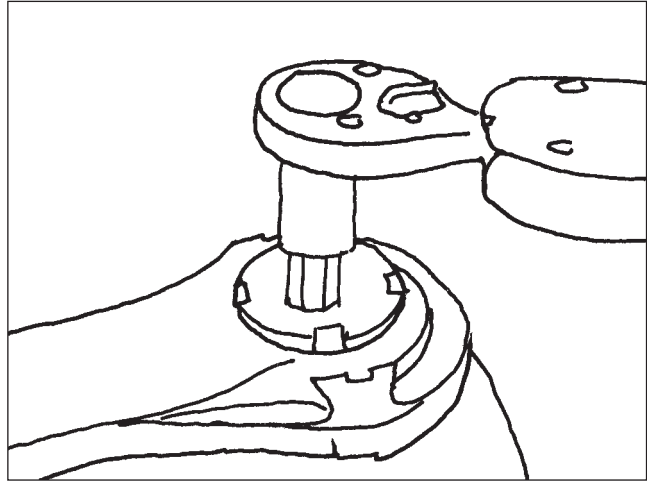

Figure 56
6. Using the 5/8" or 3/4" allen head socket and torque wrench, install the retainer in the output shaft by torquing the retainer to the torque value stamped on the face of your retainer. (Figure 56).